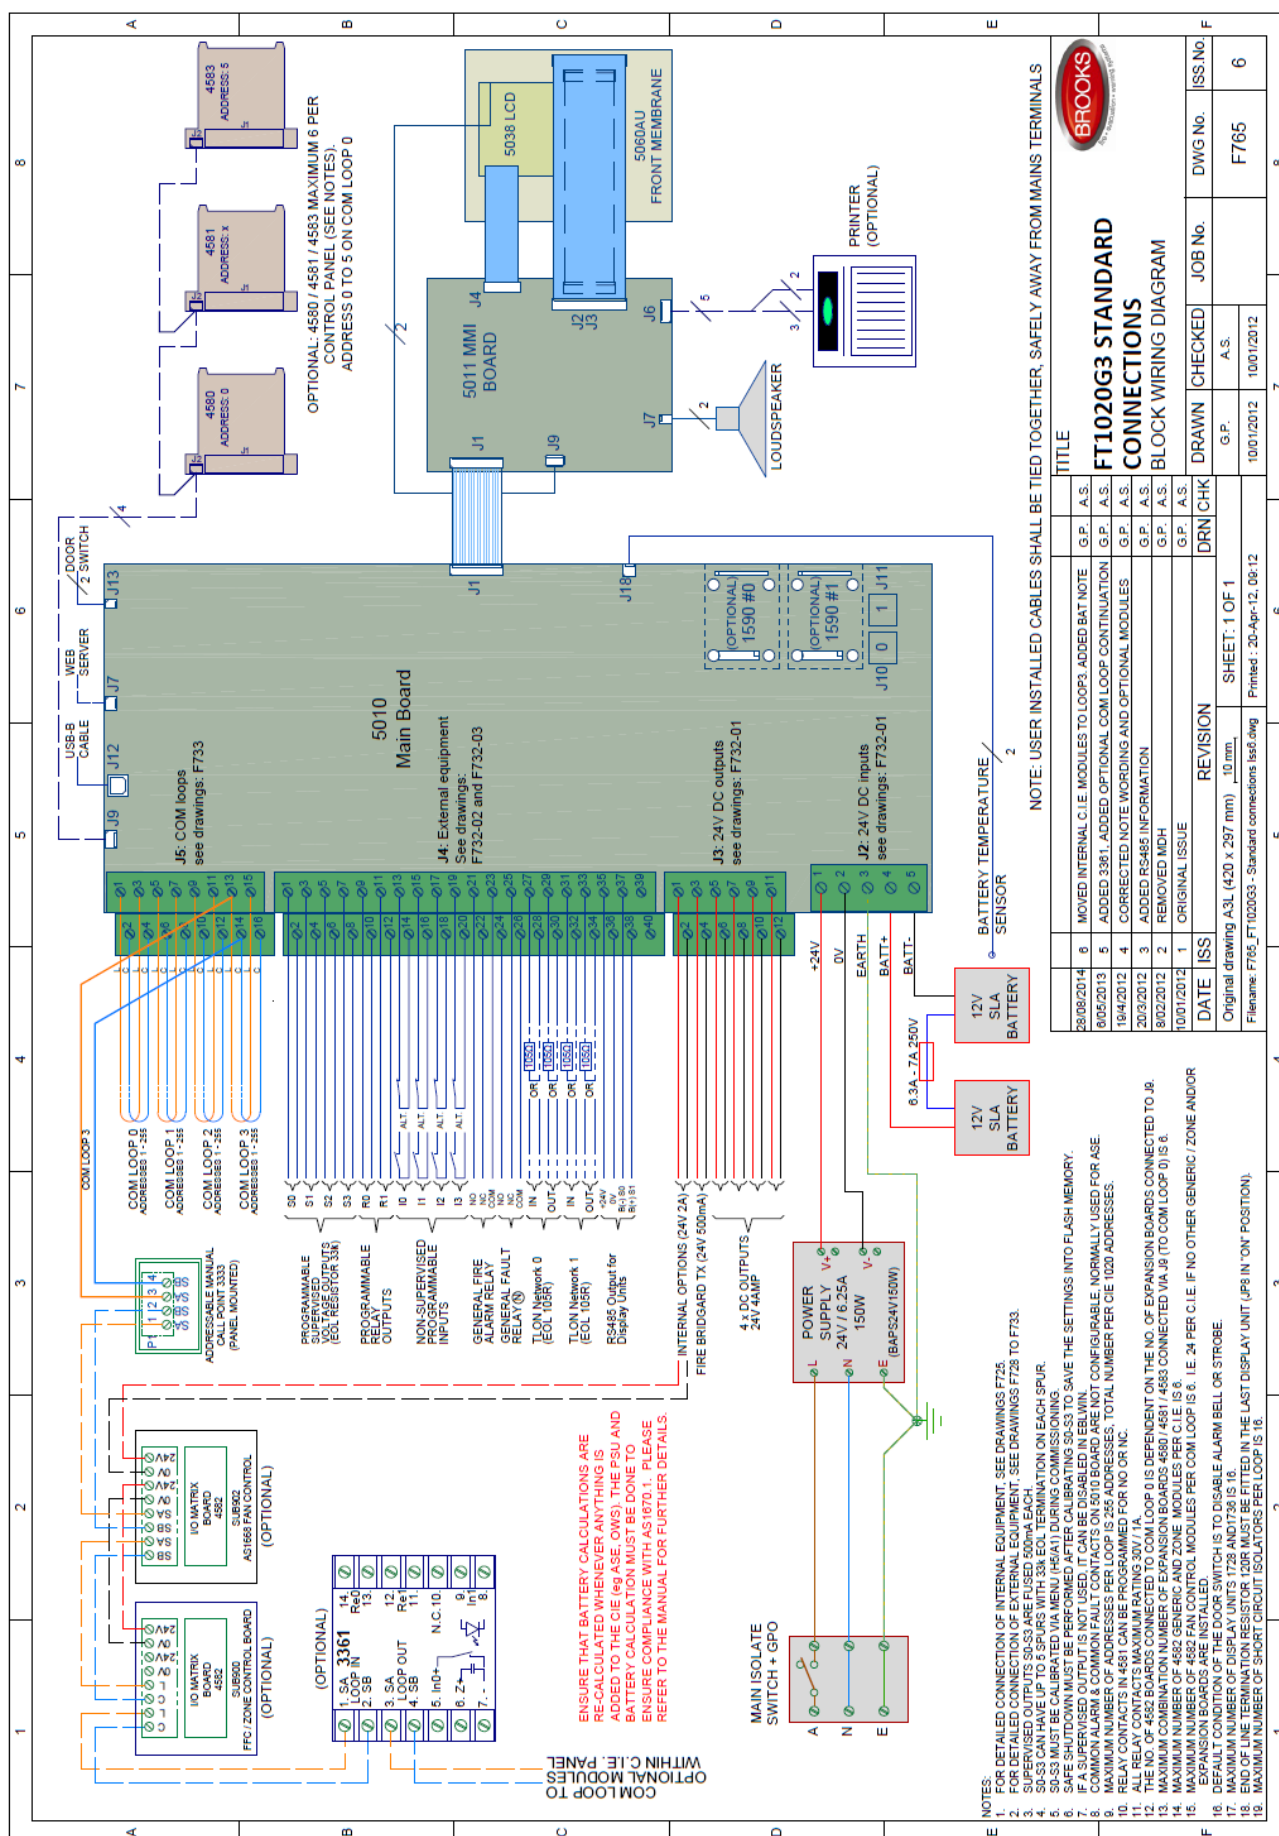

Figure 62 FT1020G3 Standard Block Wiring Diagram
2. Figure 62 FT1020G3 Standard Block Wiring Diagram, page 186